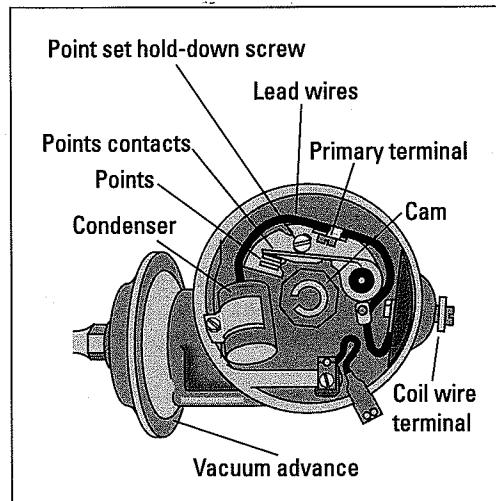

Figure 5-15:
- Ⓐ The following parts are attached to a breaker plate on the floor of a *non-electronic distributor*, as shown in Figure 5-15.